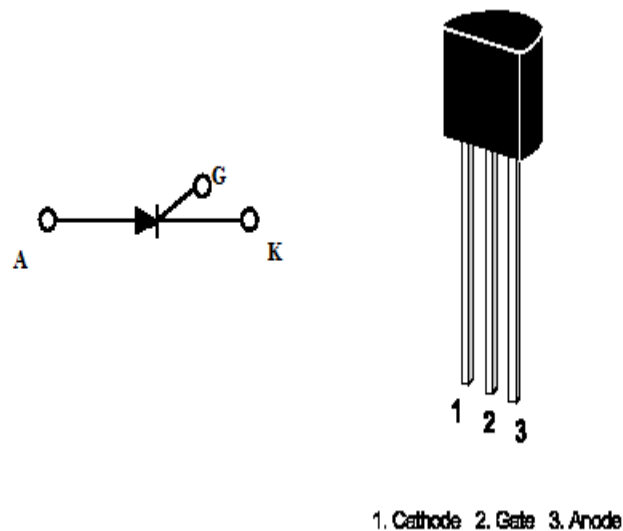
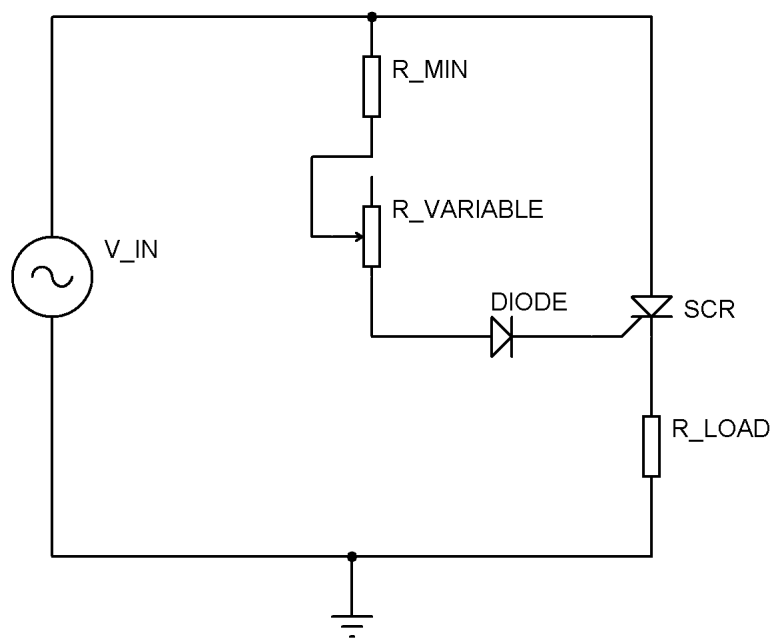

Figure 1. Pin configuration of SCR
Figure 2. Half wave rectifier using R-triggering
1. Arrange the circuit as shown in Figure 2. Use the pin configuration shown in Figure 1.